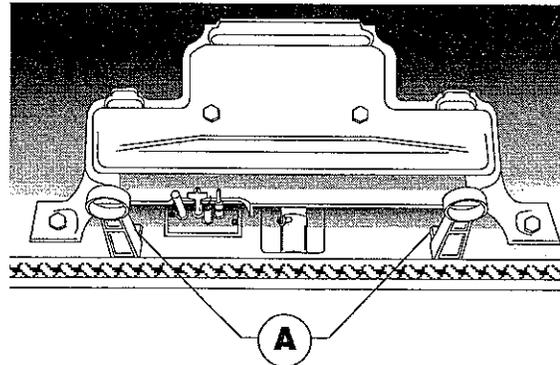

FIGURE 21. Install the andirons
1. Locate and remove the andiron screws at the front of the firebox floor. Secure the two andirons in place using these two screws. Fig. 21, A